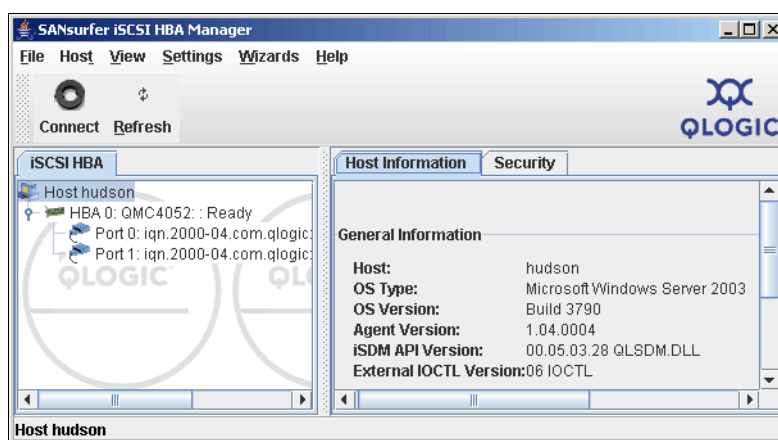

Figure 21-22 SANsurfer - General information
4. After successful login, some general information is shown about the host and a list of the HBAs and ports with their iSCSI Qualified Names (IQNs) (see 1.3.1, “iSCSI initiators and targets” on page 9). See Figure 21-22.